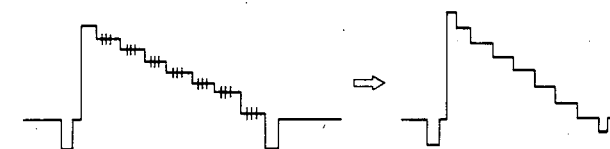

Fig. 20-2
7. Adjust RV6 and RV7 of BB board so that 3.58MHz component is minimum as shown in Fig. 20-2.